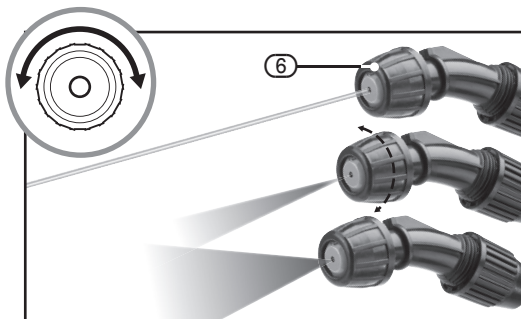

FIG.20
9.6 VARIABLE SPRAY PATTERN – FIG. 20